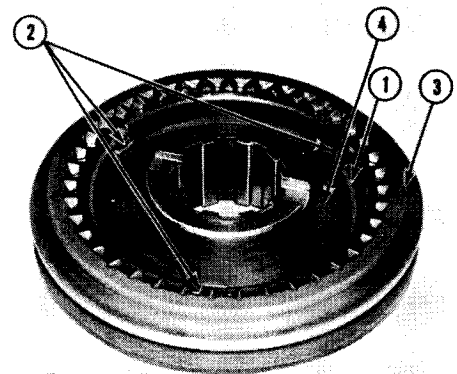

Figure 4-48
Install 1st and 2nd gear hub (4, Fig. 4-48) inside of collar (3) and install shifting plates (2). Install snap ring (1).